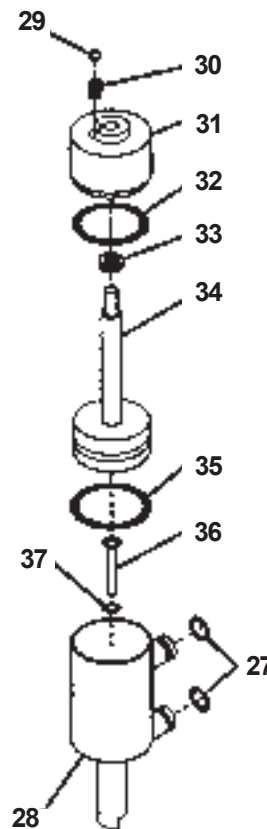

Figure 10. Pump Disassembly Step Four
- H. Remove two cylinder “O”-rings (27) from cylinder body (28). Remove air inlet retainer (29) and air inlet check valve (30) from cylinder top (31). Remove cylinder top (31) from cylinder body (28), remove “O”-ring (32) and piston quad ring (33) from cylinder top (31). Remove piston shaft (34), and “O”-ring (35) from piston shaft (34). Remove mix inlet valve (36) from cylinder body (28), and remove “O”-ring (37) from mix inlet valve (36). (See Fig. 10)